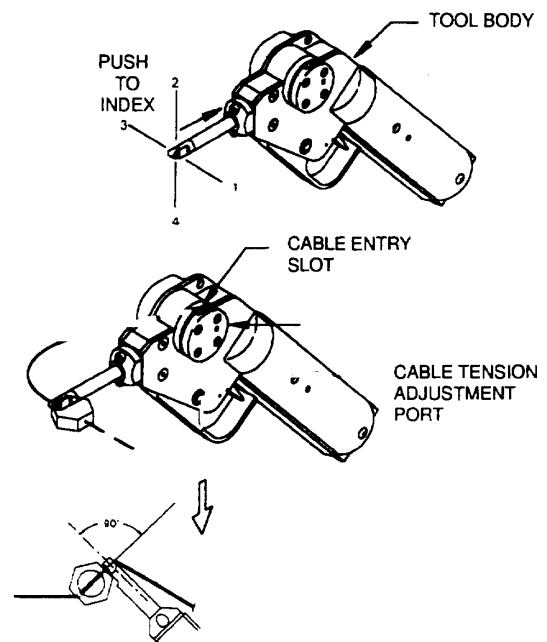

Figure 2-99. Pneumatic Safety Cable Application Tool
c. The Pneumatic Safety Cable Application Tool. (See figure 2-99). Connect the pneumatic safety cable tool to a clean, dry air supply of 80 to 100 psi.
(1) Install the safety cable through the fasteners which are to be secured.
(2) The nose can be indexed to four positions in 900 increments. To select the position, push the nose in towards the tool and rotate to the desired position. Release the nose. If the nose does not lock into the indexed position, turn it slightly until it snaps into position and locks.